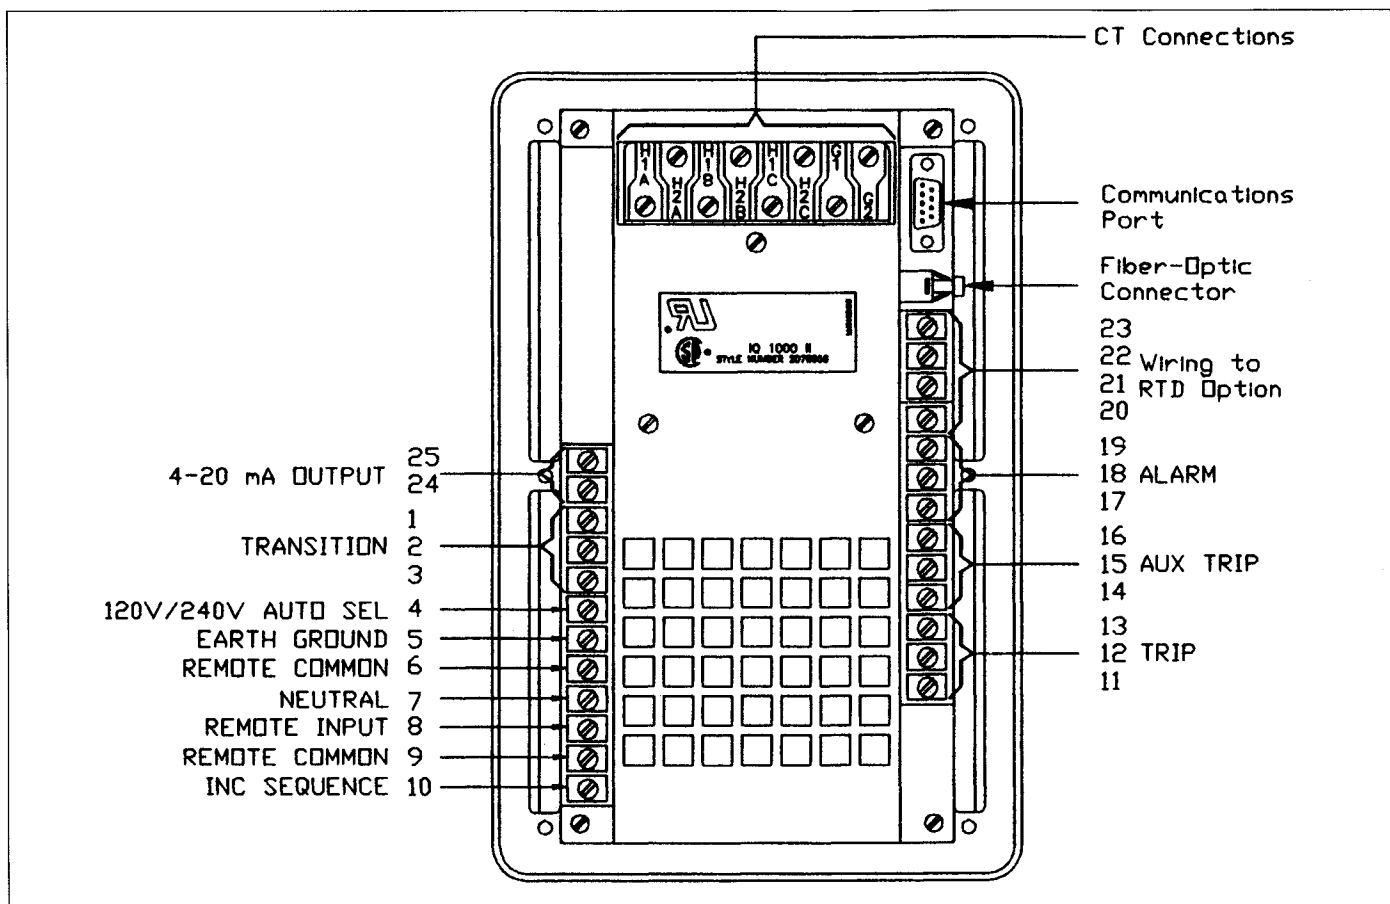

Fig. 9.1 IQ-1000 II Rear Terminals
- The form C relay contacts (terminals 11, 12, and 13) are brought out from the Trip relay. (Auxiliary Trip relay contacts are terminals 14, 15 and 16; see Figure 9.1).